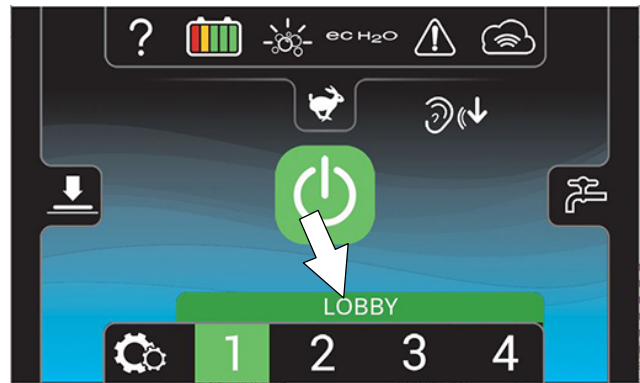

FIG. 65
4. The name will appear above the zone setting number when the zone button is pressed (Figure 65). Repeat process for other zone presets.